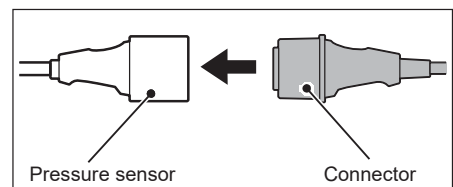

Figure 1-39
1. Attach the connector of the Pressure Sensor Cable to the pressure sensor which is connected to the extracorporeal circulation circuit line. (Figure 1-39)